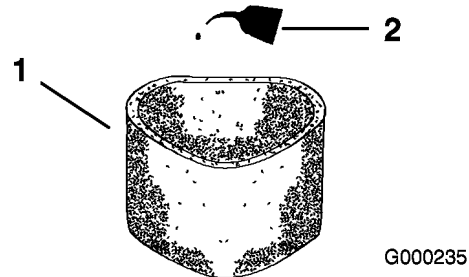

Figure 32
1. Lightly tap the element on a flat surface to remove dust and dirt (Figure 32).